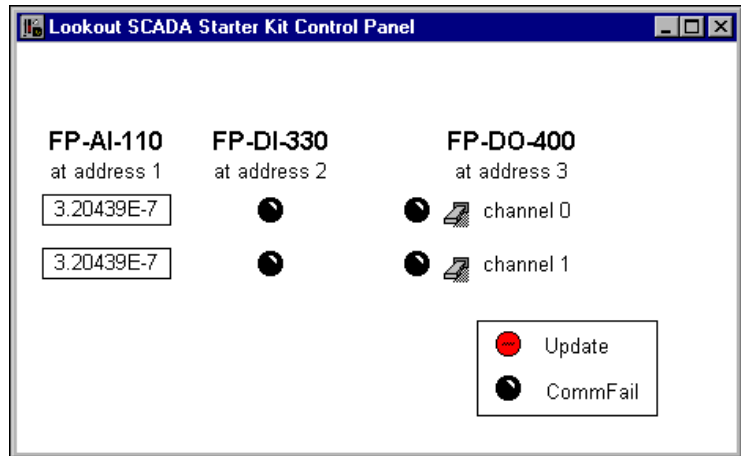

Figure 29. Control Panel with Switches and Indicators Added
14. Using the labeling and other features of Lookout, your completed control panel might look something like Figure 29.